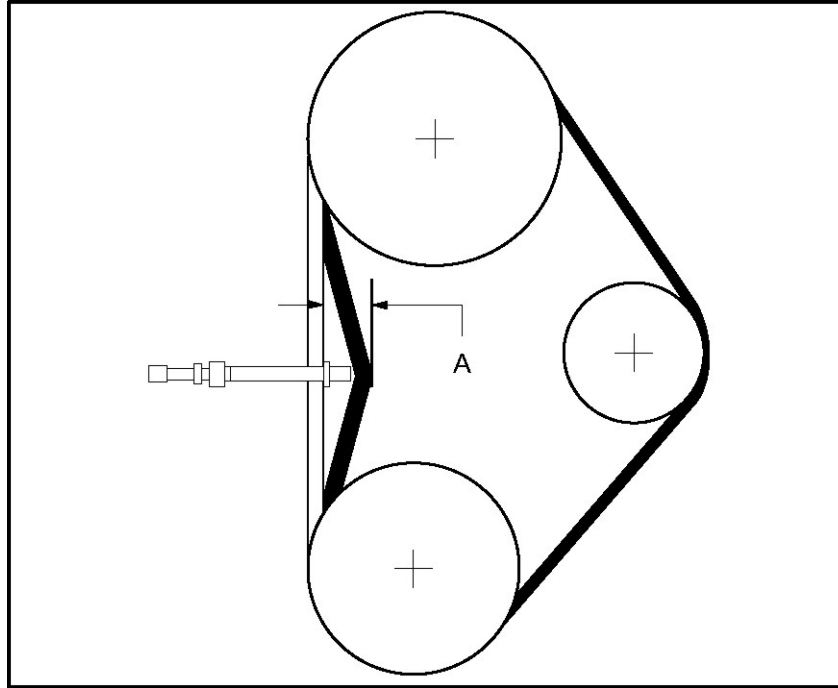

FIGURE 51. BELT DEFLECTION
- e. Apply force at right angles to one belt at the center of the span, as illustrated in Figure 51 where "A" shows where the deflection length is to be measured. Use a strip of key stock or similar tool (not included). When applying the correct force for your application (refer to the following table) at one belt, the corresponding deflection length should match the measurement listed in the following table.